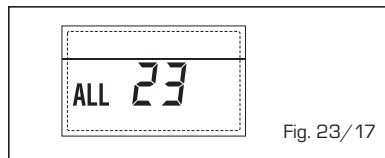

Fig. 23/17
- SOLAR COLLECTOR SENSOR ANOMALY (S1) "ALL 24" (fig. 23/18)